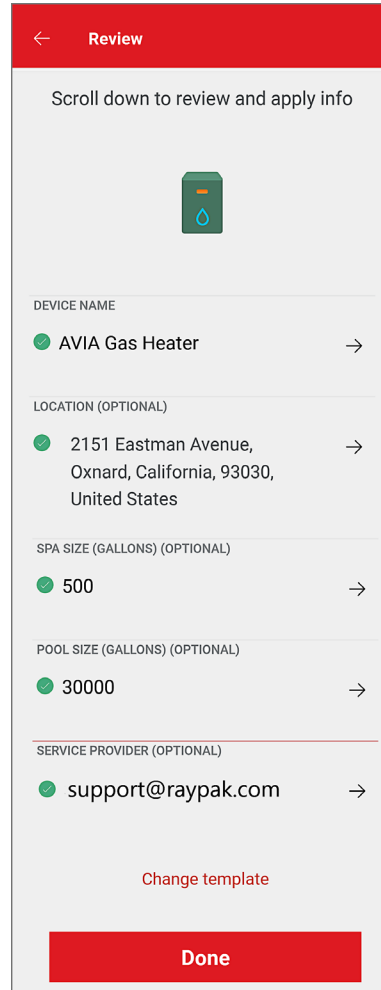

Figure 105. Device Setup Review
- During device configuration, basic reference information about the unit will be requested, including service provider, site location, Pool and Spa size. See **Figure 105**.